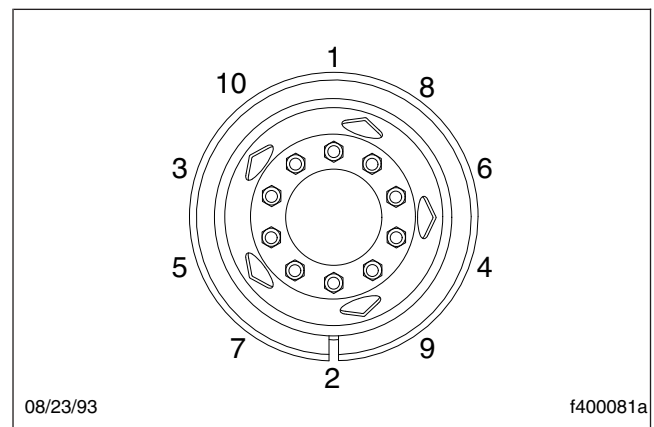
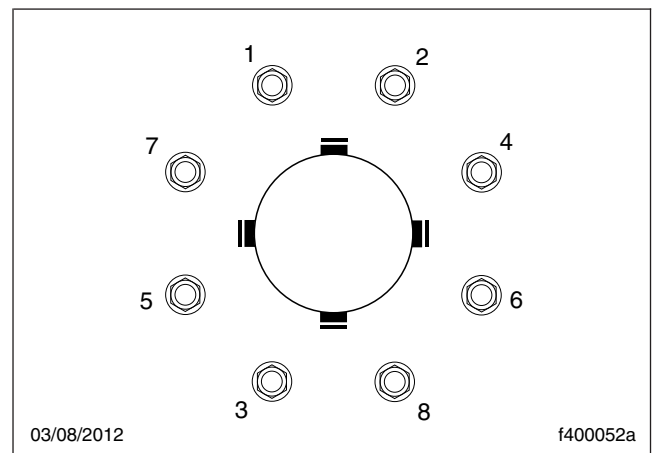

Fig. 23.5, Tightening Sequence, 10-Stud Disc Wheels
Fig. 23.6, Tightening Sequence, 8-Stud Disc Wheels
- 4.3 Make sure all wheel nuts are tightened. If tightening is necessary, use the tightening pattern in Fig. 23.5 or Fig. 23.6.